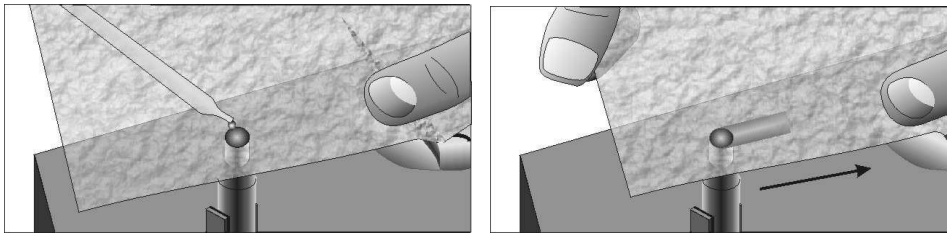
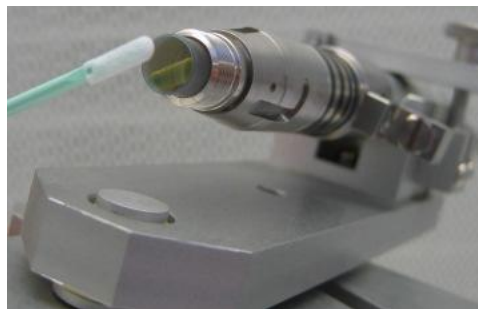

Figure 14 Clean the QBH quartz block with lens paper dipped in alcohol
Figure 15 Clean the QBH quartz block with a cotton swab dipped in alcohol
- b) Referring to Figure 14 and Figure 15, use cotton swab or lens paper dipped in alcohol or acetone to wipe the surface in one direction. DO NOT blow it with your mouth. Repeat the action above to make the the quartz block end surface clean.